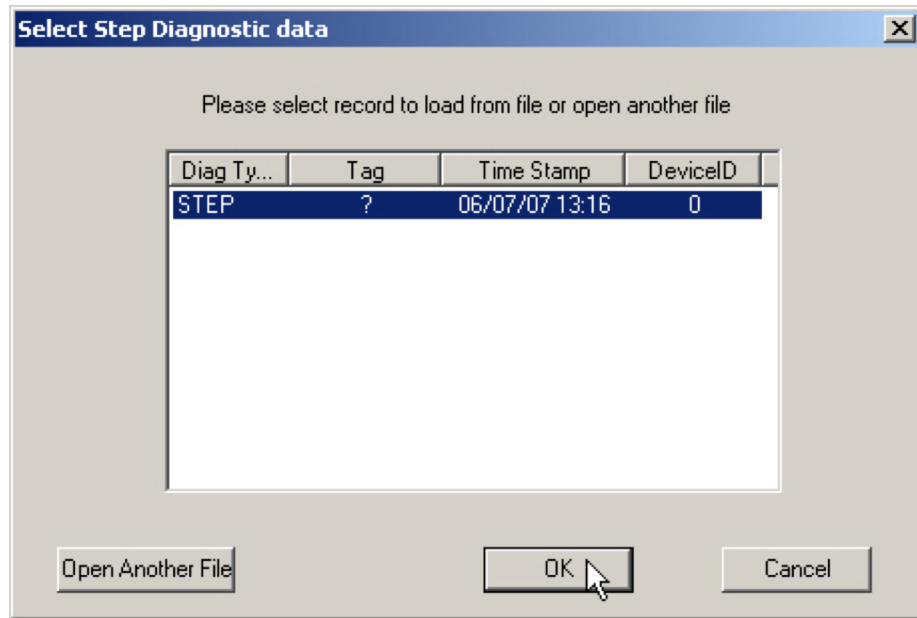

Figure 151 - Selecting Calibration Record
A dialog appears (*Figure 151*).
3. Select the record with the appropriate time stamp and click **OK** (*Figure 151*).